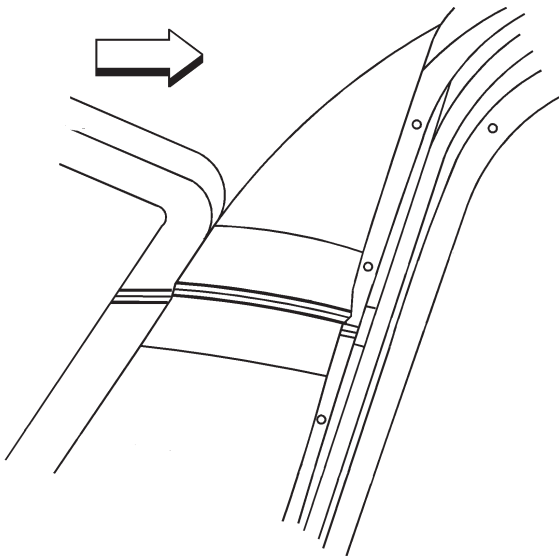

Fig. 4.26 — Factory Weld
- 5 Locate the factory weld joint at the sail panel (Fig. 4.26). Apply heat and wire brush to remove silicone-bronze material from area. Separate the roof panel from the quarter sail panel.